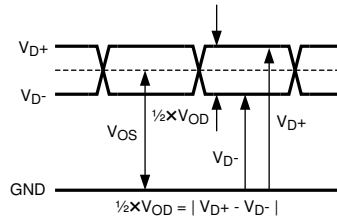

图 11-1. LVDS Output Signal Levels
**LVDS OUTPUT OFFSET VOLTAGE ( $V_{OS}$ )** is the midpoint between the D+ and D – pins output voltage with respect to ground; that is ,  $[(V_{D+}) + (V_{D-})]/2$ . See 图 11-1.